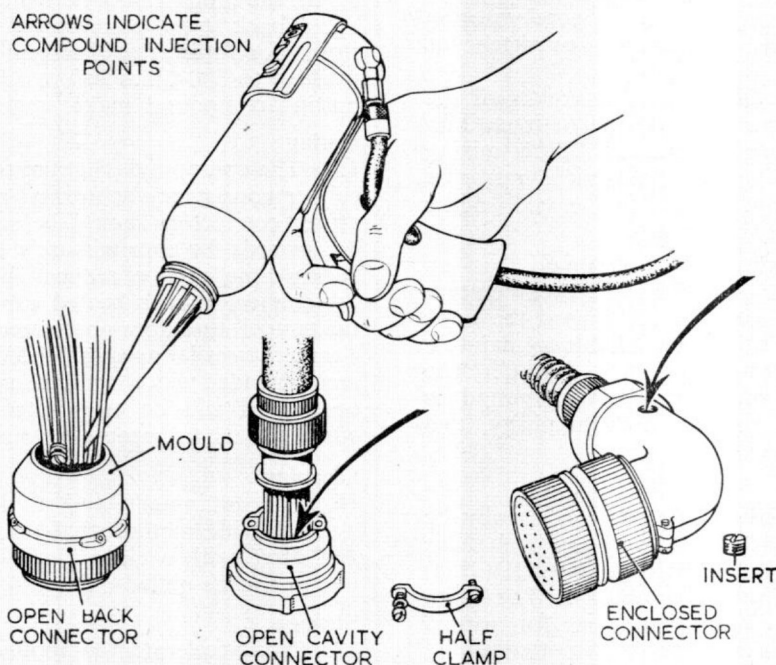

Fig. 1. Methods of injecting compound
5. The potting of three typical connectors is illustrated in fig. 1 as follows :—
10. The mixed compound can usually be poured into the connector but a polythene pressure gun (Admy. Patt. No. B11H (0278) 18363) can be used if necessary. The $\frac{1}{16}$ in. nozzle is the recommended size for normal operations. The connector to be potted should be laid on a flat surface and the compound injected as described in para. 5 and shown in fig. 1.